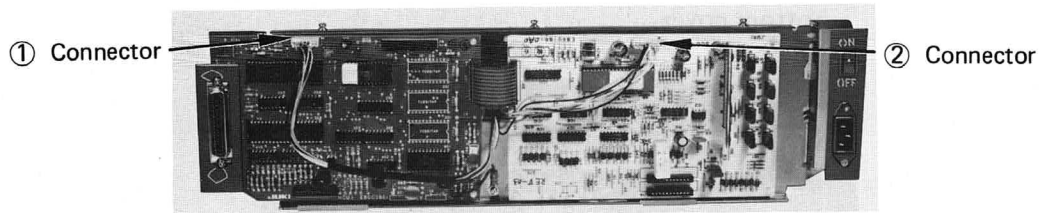

Fig. 5.34
- Step 1. Remove the controller unit and then disconnect connectors ① and ②. (Fig. 5.34)